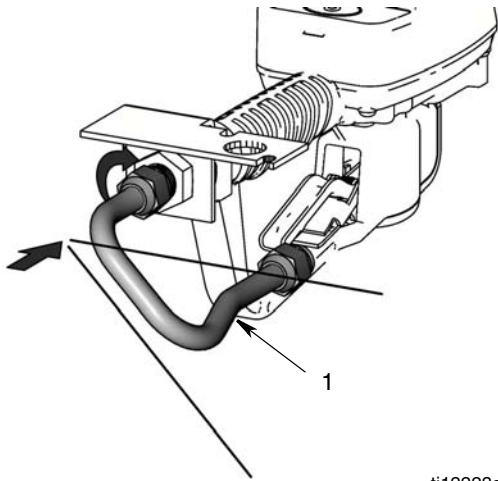

FIG. 10
9. Install fluid inlet tube (1) at a 45° angle to meter as shown in FIG. 10.